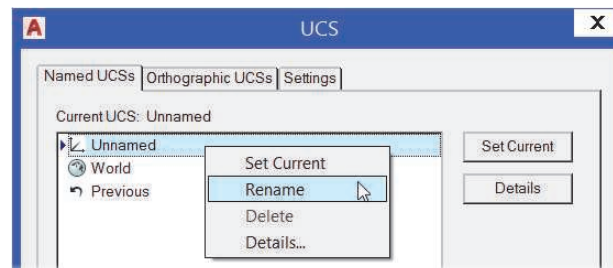

Figure 3–27
4. In the list, right-click on Unnamed and select **Rename**, as shown in Figure 3–27.